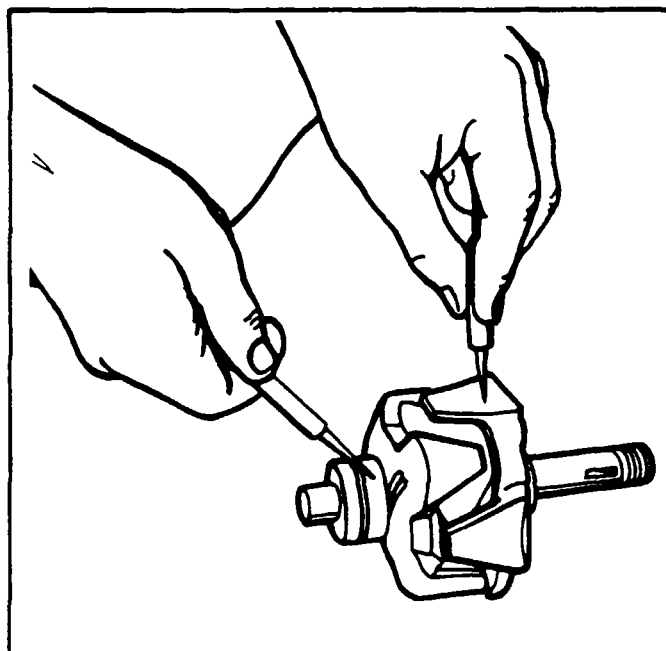
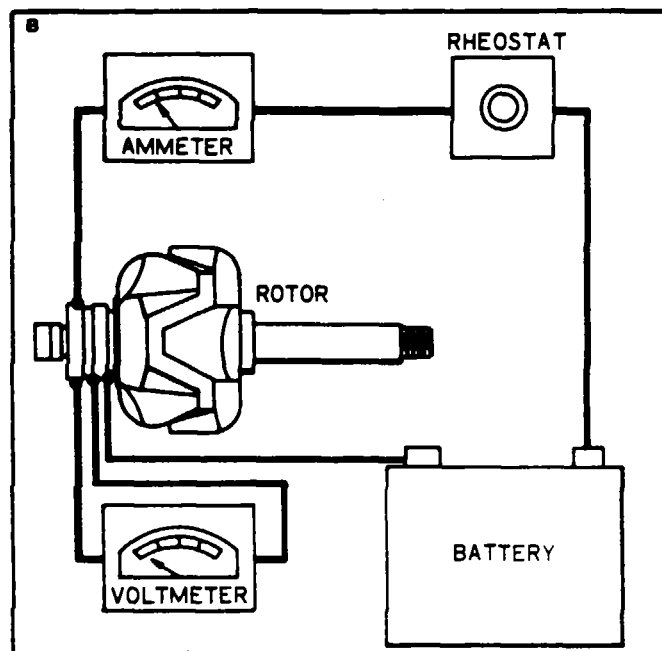

Figure 11-9. Testing Rotor for Ground
Figure 11-10. Testing Rotor for Shorts
a. Rotor: The rotor should be tested for grounded or shorted windings. The ground test can be made with test probes, connected in series with a 110 volt test lamp, an ohmmeter or any type of continuity tester. (Refer to Figure 11-9.) There must not be any continuity between the slip rings and the rotor shaft or poles. To test for shorted turns in the rotor winding, connect a voltmeter, ammeter and rheostat as shown in Figure 11-10, or use an ohmmeter. Rotor current draw and resistance are listed in the Alternator Service Test Specifications paragraph. Excessive current draw or a low ohmmeter reading indicates shorted windings. No current draw or an infinite ohmmeter reading would indicate an open winding.